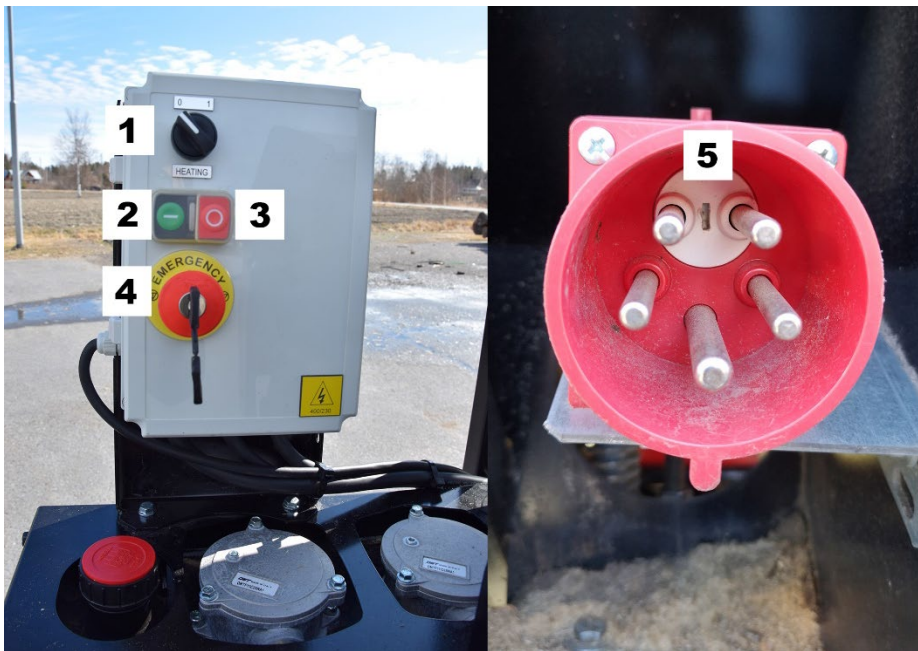

Figure 18
- ❑ To swing the conveyor, release the clamping iron for the swing by depressing it with your foot, Fig. 18, and turn the conveyor with your hand in the desired direction.